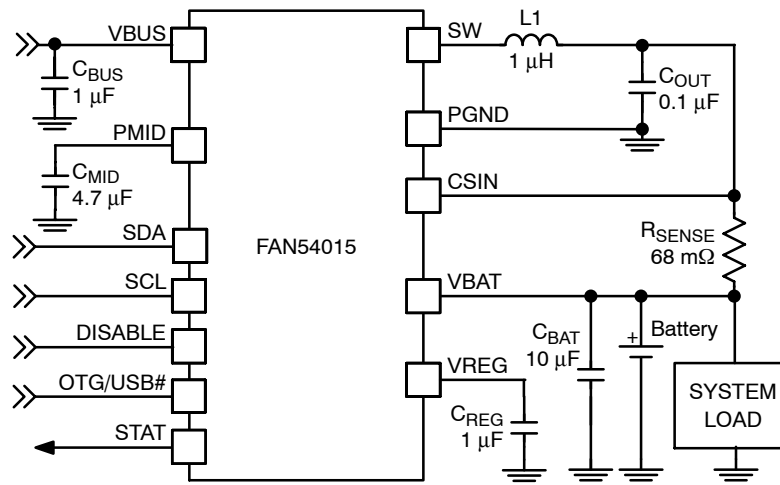

Figure 1. Typical Application
**ELECTRICAL SPECIFICATIONS** (Unless otherwise specified: according to the circuit of Figure 1; recommended operating temperature range for  $T_J$  and  $T_A$ ;  $V_{BUS} = 5.0\text{ V}$ ;  $HZ\_MODE$ ;  $OPA\_MODE = 0$ ; (Charge Mode);  $SCL$ ,  $SDA$ ,  $OTG = 0$  or  $1.8\text{ V}$ ; and typical values are for  $T_J = 25^\circ\text{C}$ )